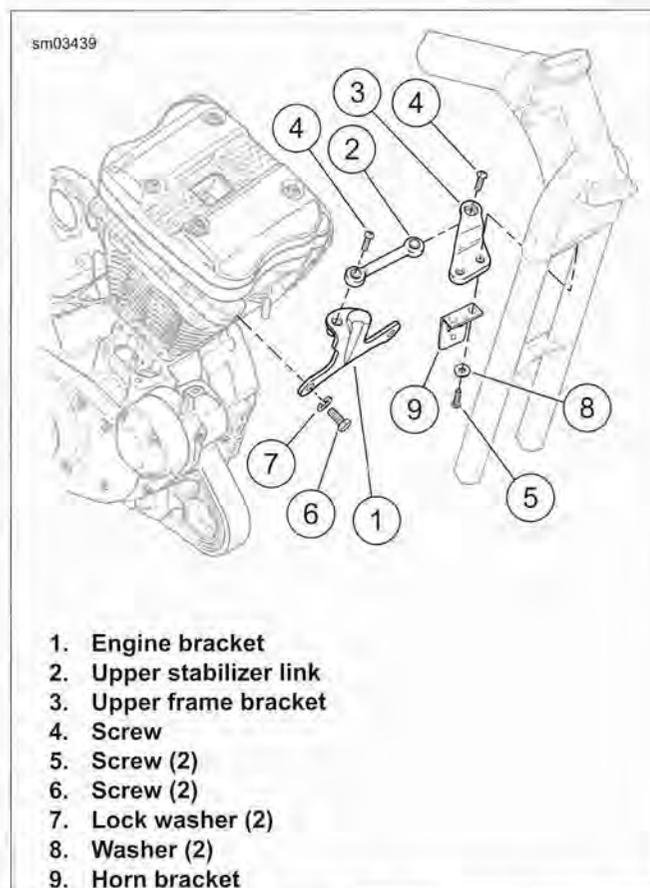

Figure 2-167. Upper Front Stabilizer Link Assembly
1. See Figure 2-167. Remove screws (4) and stabilizer link (2).
2. Remove screws (5), washers (8), horn bracket (9), and upper frame bracket (3) from frame.
3. Remove screws (6), lock washers (7) and engine bracket (1) from front cylinder head.
1. See Figure 2-167. Install screws (6), lock washers (7) and engine bracket (1) to front cylinder head. Tighten to 55-65 ft-lbs (74.6-88.2 Nm).
2. Install upper frame bracket (3), horn bracket (9), screws (5) and washers (8).
4. Install stabilizer link (2) with screws (4). Tighten to 25-35 ft-lbs (33.9-47.5 Nm).
7. See Figure 2-167. Remove screw (4) securing upper front stabilizer link (2) to stabilizer link bracket (3).
6. See Figure 2-167. Attach upper front stabilizer link (2) to bracket (3) with screw (4). Tighten to 25-35 ft-lbs (33.9-47.5 Nm).
14. See Figure 2-167. Remove screw (4) securing upper front stabilizer link (2) to stabilizer link bracket (3).